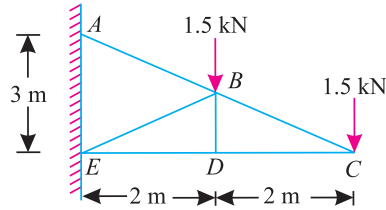

Fig. 13.38.
2. A cantilever truss of 4 m span is carrying two point loads of 1.5 kN each as shown in Fig. 13.38. Find the stresses in the members  $BC$  and  $BD$  of the truss.